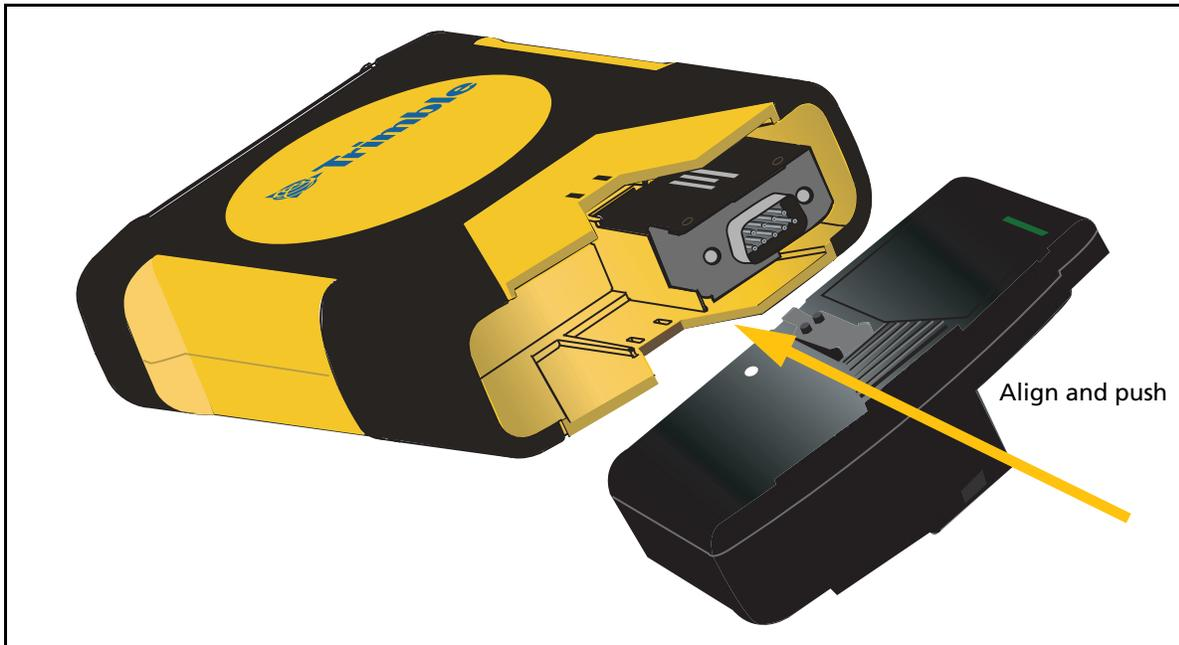

Figure 1.5 Replacing the battery
- Align the battery and then push it carefully into the battery cavity. The spring clip holds the battery in position. See Figure 1.5.